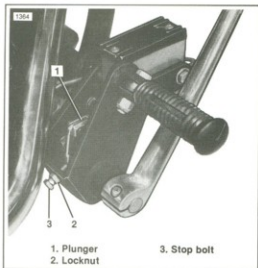

Figure 2-43. Rear Brake Pedal Adjustment
1. **FXWG 1983 AND EARLIER Only** — See Figure 2-43. Loosen the locknut (2) and turn stop bolt (3) clockwise to decrease free play or counterclockwise to increase free play. Hold the stop bolt in position and tighten the locknut to 10 ft-lbs torque.